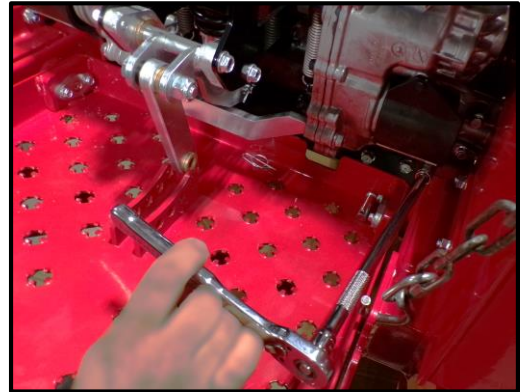

Figure 4 Filter Guard on Machine
- Remove the filter guards [Figure 4] using a 3/8" socket, extension, and ratchet as shown.